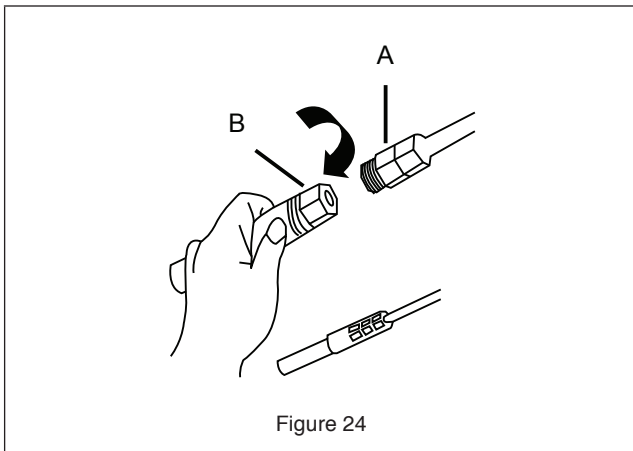

Figure 24
3. Connect the newly installed water supply line (B) to the refrigerator water inlet connector (A), tighten using tool. See Figure 24.